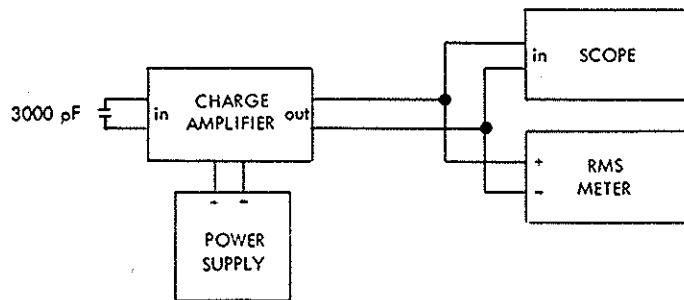

Figure 5-2. Noise Check Set-Up.
- a. Connect equipment as shown in Figure 5-2.